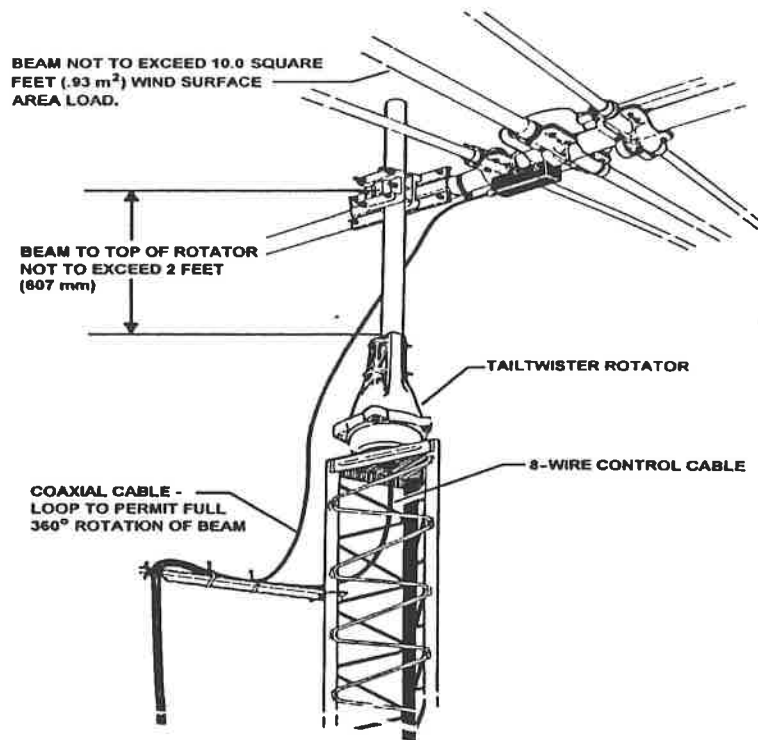

Figure 5
Referring to Figures 5, 6, and 7, an outside tower or pole mount is made in the same manner except that the rotator is fastened by four (4) bolts only (not six) to the Lower Mast Support, PN 5146710. Since the eccentricity of the rotator turning in reference to the tower is no longer important, the shimming procedure is not necessary. The four (4) screws must be torqued to the same specification and the 8-wire cable securely fastened. The lower mast should be pinned with the 5/26"-18 x 4" bolt as shown in Figure 6.
The stock Taitwister T2X is intended to mount on the base plate inside of the tower. However, in some instances, outside tower or mast mounting is desired as per Figures 5 and 6. This kit, P/N 5146710 contains a heavy-duty lower mast support and the necessary hardware to facilitate mounting the T2X on top of a tower stub or mast.